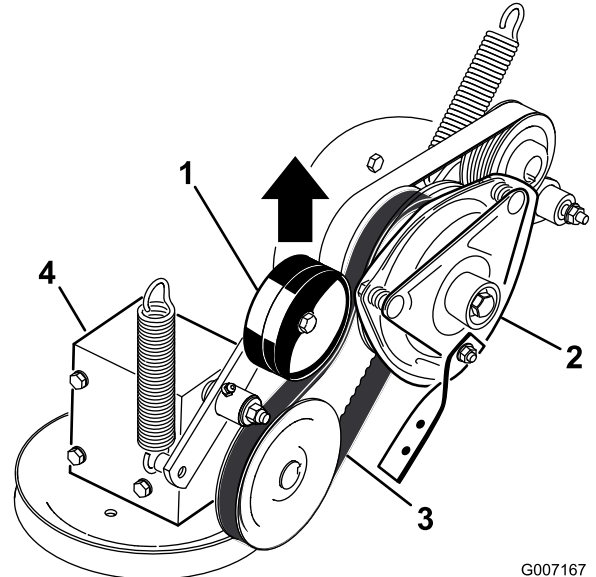

Figure 68
5. Pull up on the spring-loaded idler pulley for the PTO-drive belt and remove the belt from the clutch pulley (Figure 68).
17. Pull up on the spring-loaded idler for the PTO-drive belt and install it onto the clutch pulley (Figure 68).